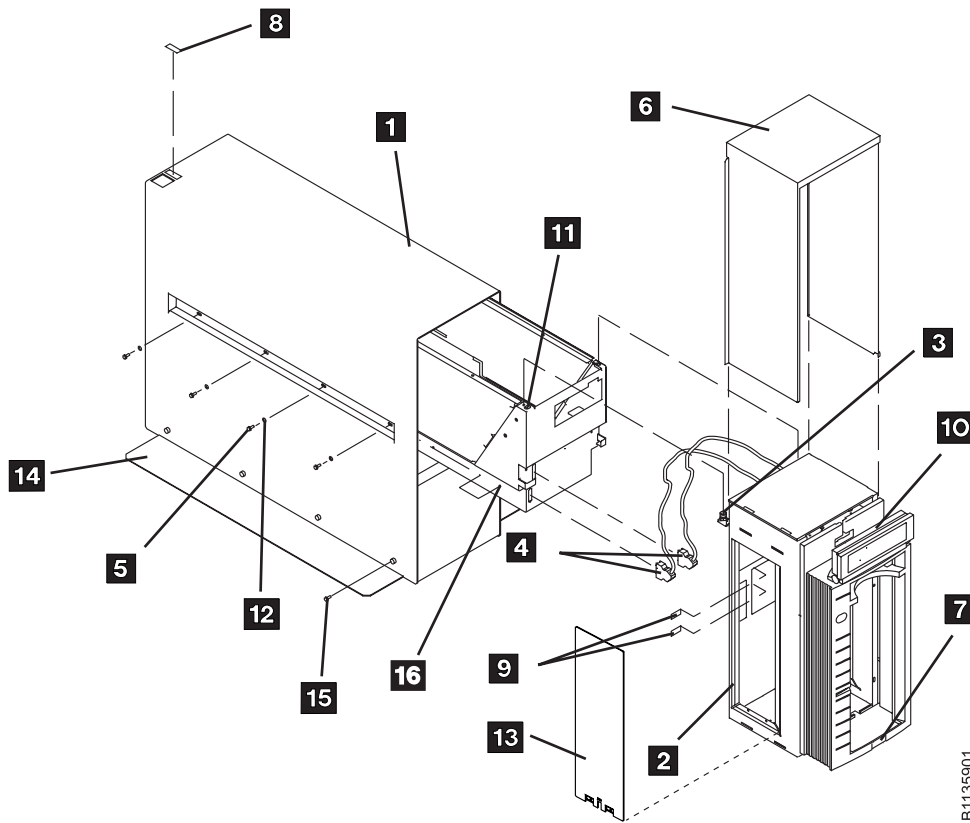

Figure 228. Desk Side Cover Installation for Model B11/E11, RPQ 8B3191
2. Switch OFF power to the failing device by using the power switch on the back of the drive enclosure. See **8** in Figure 228 on page PROC-14 for location of the power switch.
2. If a FID or ATTN message is available for the failure, go to “FID Entry Point” on page START-7 to determine if it is an ACF failure. Then decide if removal of the ACF and drive from the desk side cover is warranted. If the ACF can be serviced while attached to the sleeve, remove the ACF cover **6** in Figure 228 on page PROC-14 from the ACF and skip to step 11 on page PROC-14. **Otherwise**, continue with the next step.
3. Refer to Figure 228 on page PROC-14. Remove the eight screws **5** and eight washers **12** from the desk side cover **1**, four screws and washers from each side of the sleeve to allow removal of the drive for service.
- 7. Refer to Figure 228 again.
- ___ 3. Refer to Figure 228 on page PROC-14. With assistance, lift the 3590 drive (without the ACF attached), from the work surface and slide it into the front of the sleeve **1**.